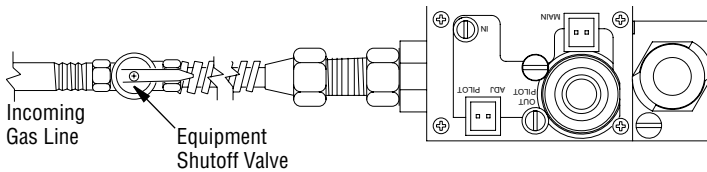

Figure 25 - Turning Equipment Shutoff Valve to the OFF Position
3. Turn equipment shutoff valve clockwise ↻ to the OFF position (see **Figure 25**). Do not force.
4. Wait five (5) minutes to clear out any gas. Then smell for gas, including near the floor. If you smell gas, STOP! Follow "B" in the safety information. If you don't smell gas, go to the next step.